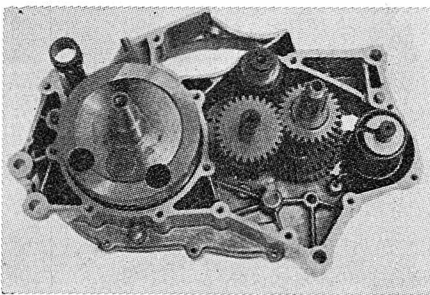

Fig. K2-16—View of right half of crankcase with crankshaft and transmission correctly positioned for reassembly.
The crankshaft and transmission parts can be removed after the crankcase halves are separated as shown in Fig. K2-16. Refer to Figs. K2-17, K2-18 and K2-19 for exploded views. When assembling, make certain that grooved side of first gear (15) on output shaft is toward second gear (16). If incorrectly installed, first gear will remain engaged. Mating surfaces of crankcase halves should be coated with a non-hardening sealer. Gasket is not used between crankcase halves. Sealing surfaces must be perfectly smooth and sealer must be applied evenly to all mating surfaces to prevent leakage. Screws attaching crankcase halves together should be tightened evenly.